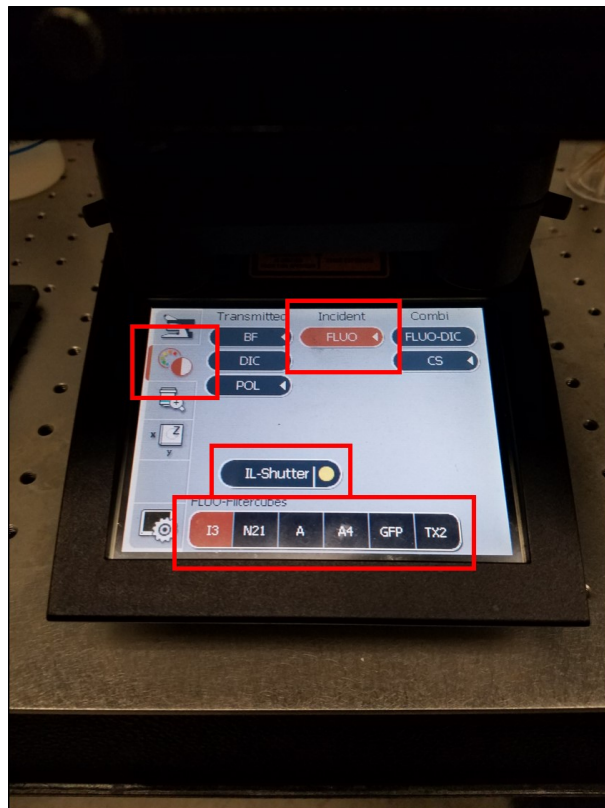

Figure 3: Panel at the front of the microscope for controlling filters for the eyes.
5. To focus using fluorescence, use the panel on the lower front of the microscope. See Figure: 3.